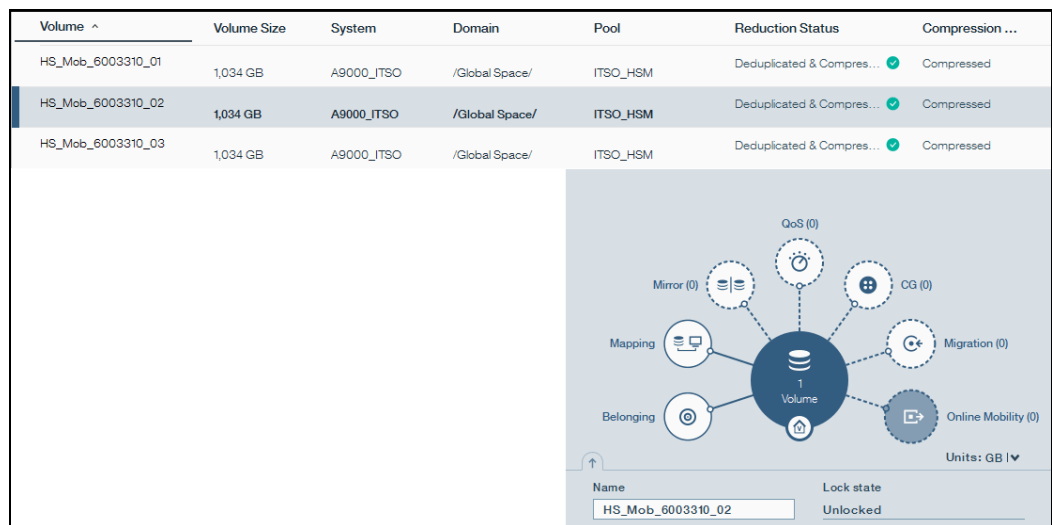

Figure 3-9 Volumes view with Hub Display in Hyper-Scale Manager
- To create the IBM Hyper-Scale Mobility relationship, select the source volume in the Volumes view and click the **Online Mobility** spoke in the Hub display on the right, as shown in Figure 3-9.